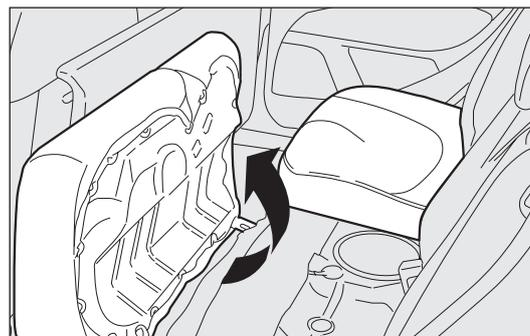

fig. 100
Partial extension (1/3 or 2/3) fig. 100 (for versions/markets where provided)
- tilt the cushions forward as shown by the arrow fig. 100;